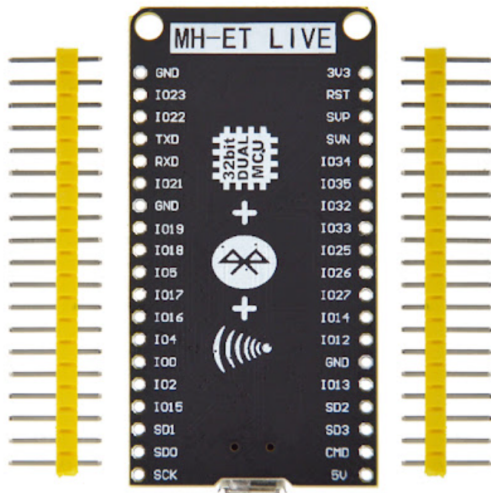

Fig. III.5. ESP 32
- III.5 Connect any 4 GPIO pins (**Ex:** 25, 26, 33 & 32) of **ESP32** in Fig. III.5 to L293D inputs